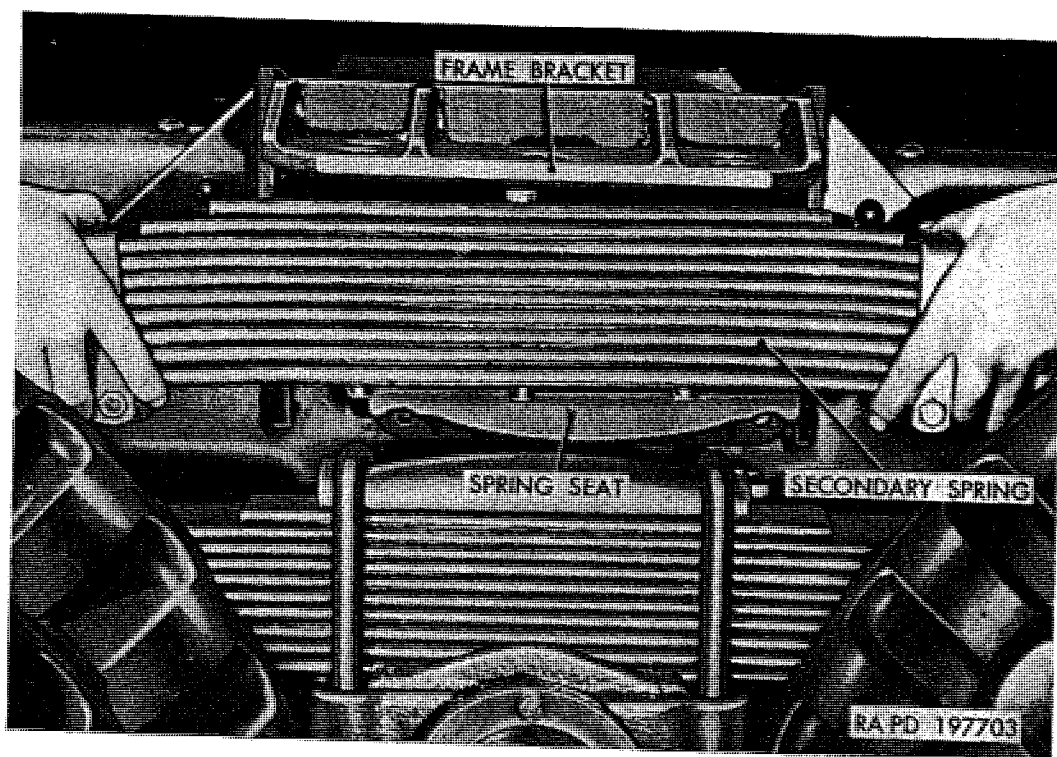
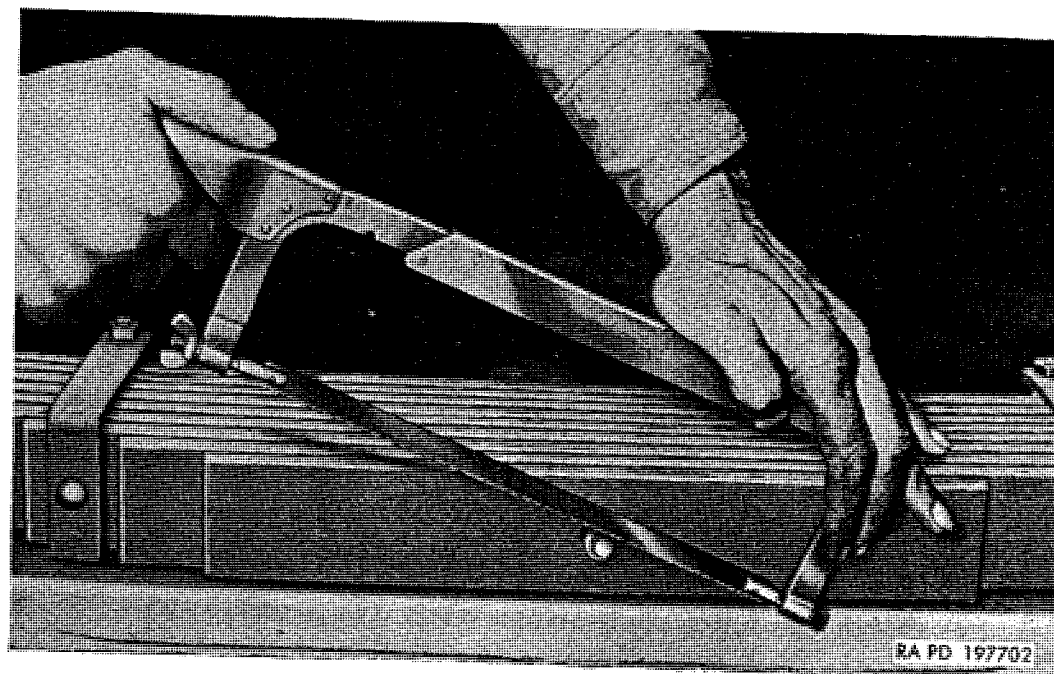

Figure 296. Secondary spring seat removal.
Figure 297. Removing excess end of secondary spring center bolt.
- (6) Roll spring out of spring seat (fig. 296) by tilting top of spring in toward frame side member and pulling ends of spring out toward tires. Spring can then be lifted out of spring seat and removed out over wheels. Remove spring seat.
- (1) If spring center bolt extends over a thread above bolt nut, cut off bolt (fig. 297) to give maximum clearance between bolt and frame bracket when installing spring.
- (2) Place secondary spring seat in position on top of main spring U-bolt spacer. Move spring seat to rear as far as possible until seat contacts flange of frame bracket.
- (3) Position spring on spring seat (fig. 296), with top of spring tilted towards frame and spring ends toward tires. When